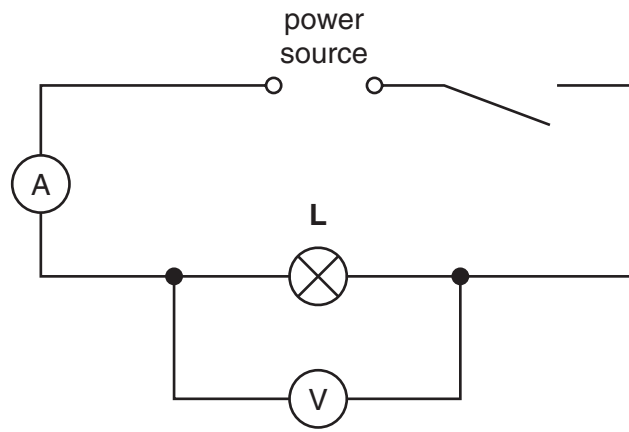

Fig. 2.1
1. The circuit is to be set up for the candidates as shown in Fig. 2.1.
5. At the change-over, check that the circuit is as shown in Fig. 2.1.